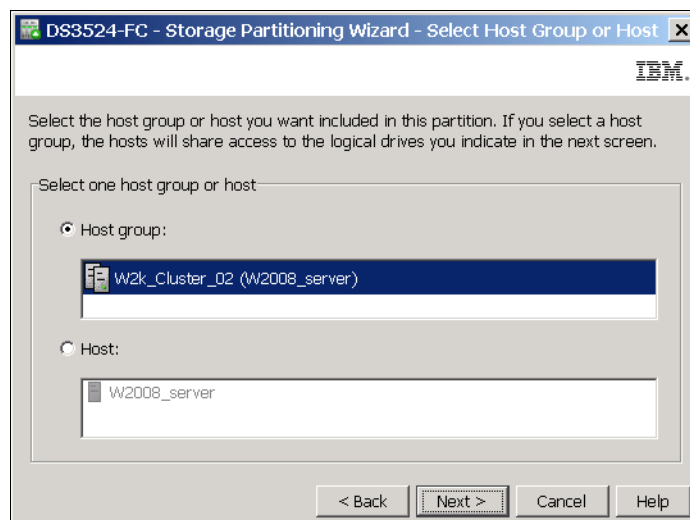

Figure 11-15 Storage Partitioning - select Host or Host Group
2. After the introductory window, the wizard asks you to select either a host or a host group (Figure 11-15). If you are creating a storage partition for clustered host servers, you need to specify the appropriate host group. Otherwise you can select an individual host. In this window, you can only see hosts and host groups with no logical drives mapped. If you selected a host or host group before you started Storage Partitioning wizard, it is already selected in this window.